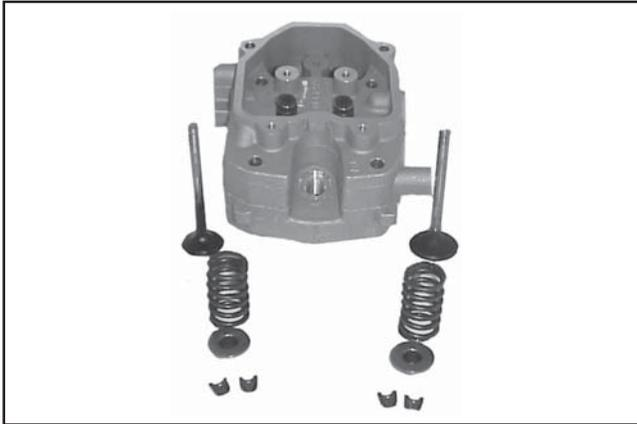

Figure 9-56. Disassembled Head and Valve Components.
3. With the keepers taken out the following items can be removed. See Figure 9-56.